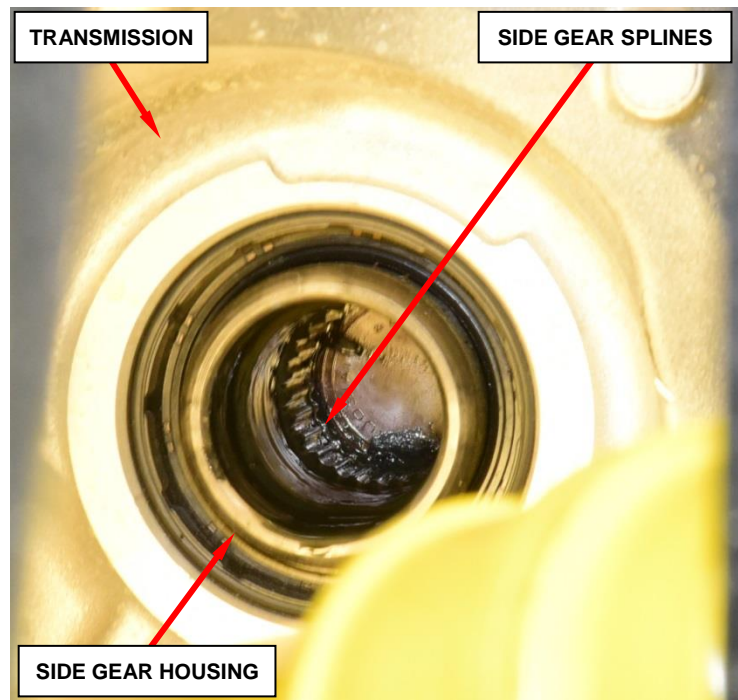

Figure 9 – Clean/Inspect Transmission Side Gear Housing Splines
10. Remove and clean any debris from the transmission side gear housing splines. Inspect the splines for any damage (Figure 9).